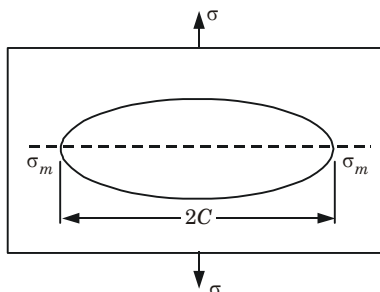

Fig. 7.
5. For an elliptical crack (Fig. 7), the maximum stress at the tips is given by :